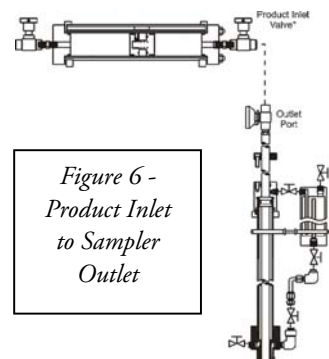

Figure 6 - Product Inlet to Sampler Outlet
2. After pre-charging the cylinder above pipeline pressure (see Section 2.2), connect the product inlet valve of the cylinder to the sampler outlet port (see Figure 6), or other sample source.